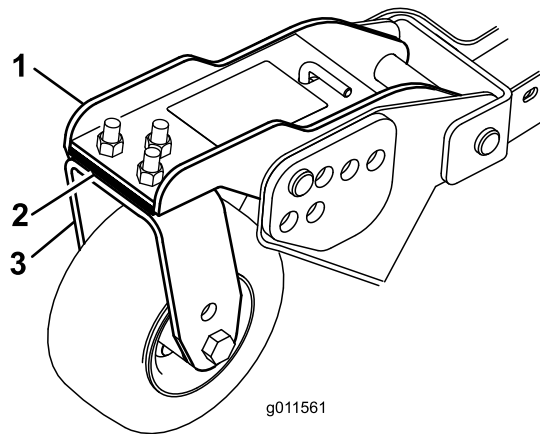

**Figure 79**
1. Loosen the jam nuts on the top or bottom of the height-of-cut chain U-bolt (Figure 79).